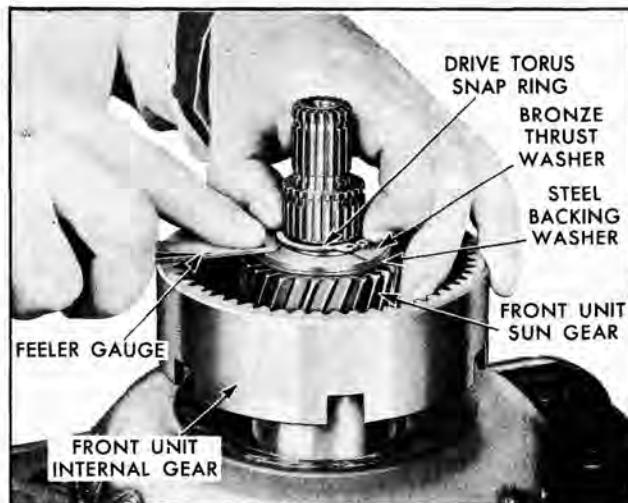

Fig. 165 Measuring Front Unit End Clearance
8. Push intermediate shaft and sun gear firmly to rear of transmission (Fig. 165) to make sure all end play is taken up.
9. Push snap ring down against rear of groove and very carefully measure clearance between snap ring and bronze thrust washer using a set of feeler gauges (Fig. 165). CAUTION: The feeler gauge must be flat against the thrust washer to obtain an accurate reading.